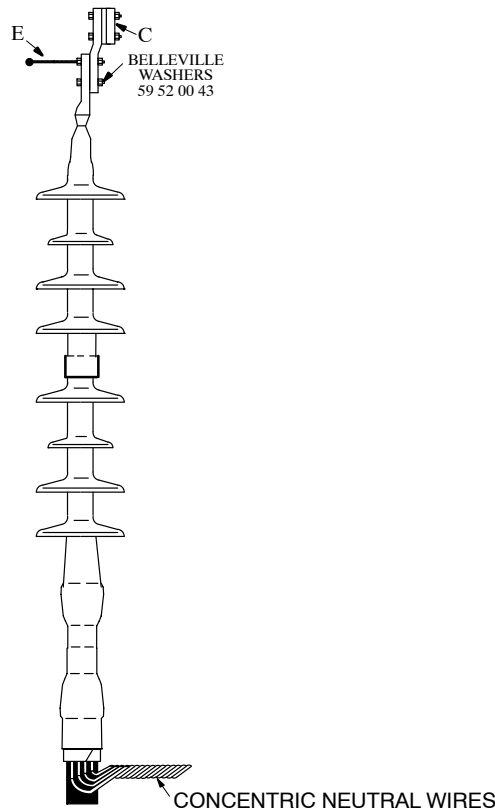

FIGURE 6
9. For 1/0–750 kcmil outdoor installations, attach a bronze four bolt lug to the compression lug or shearhead bolt lug using a ground stud in the upper hole and a 1/2" x 2" bolt in the lower hole. See Figure 6.